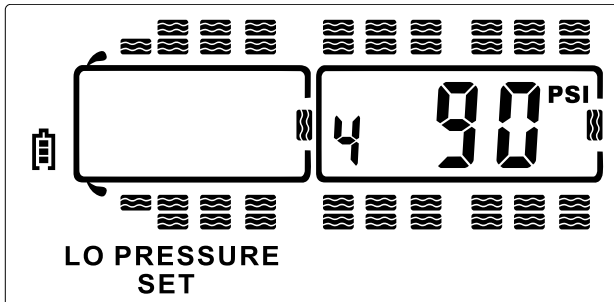

Figure 16: Low Pressure Set Parameter Screen
5. Press the **+** button or the **-** button to adjust the low pressure alert to 10% below the normal tire pressure for that axle. See *Figure 16*.